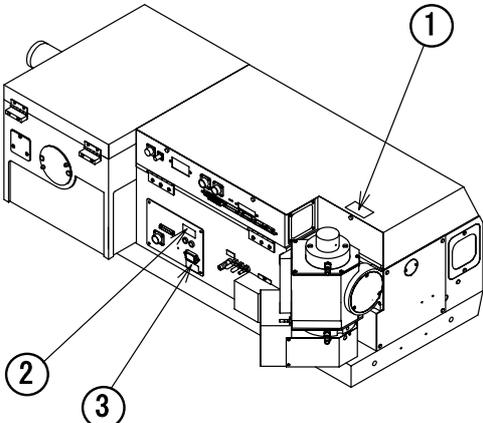

Fig. 1
### 1) WARNINGS! Handling the Xenon Lamp (①of Fig. 1)
### WARNING! Fuse Rating (②in Fig. 1)
Use only fuses of the designated rating to protect both the operator and the equipment from fire and other hazards. When replacing the fuse, turn OFF the "Power" switch and unplug the power cable from the outlet to avoid electric shock. **WARNING!** Grounding (③ in Fig. 1)